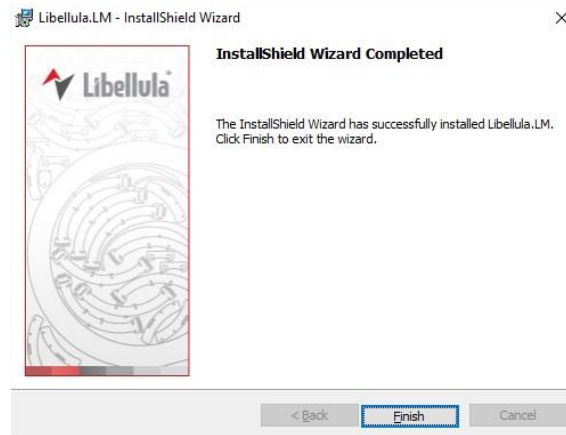

Fig 31 SwiftCAM installation file icon.
1. Double click the SwiftCAM installation file (Fig 31), the installation files will begin to extract.